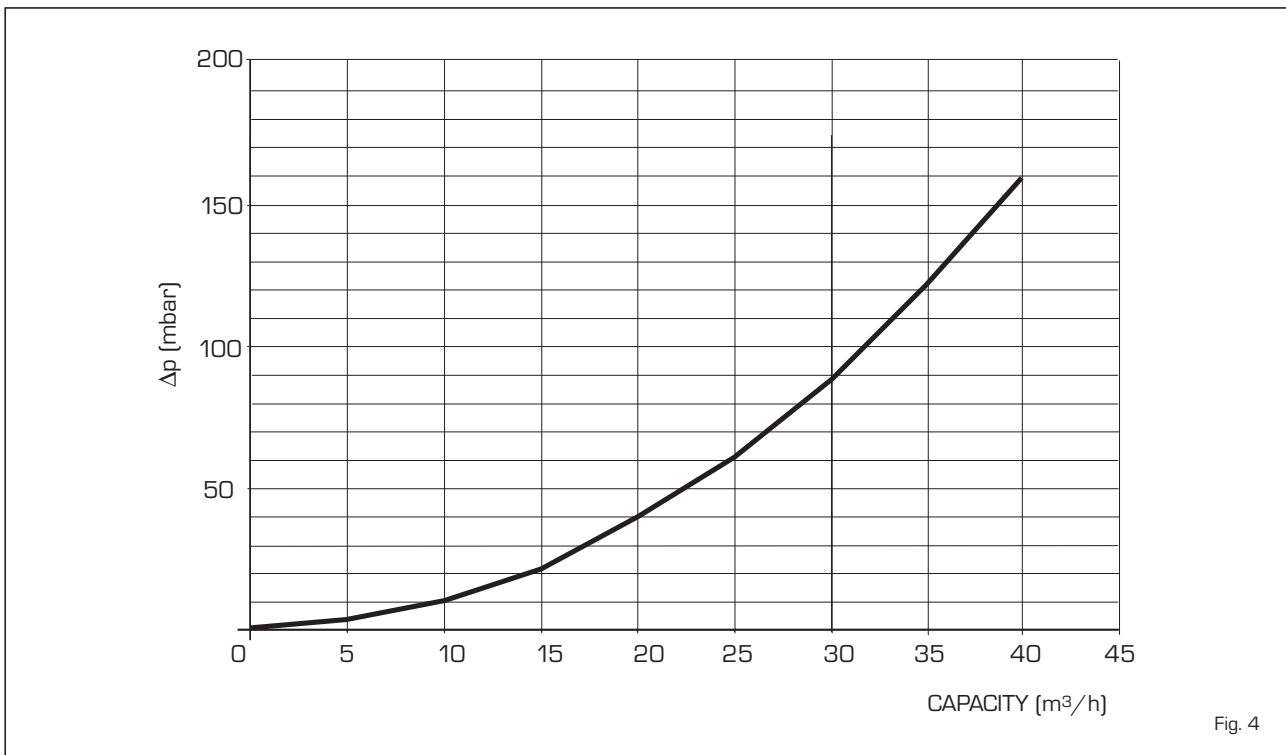

Fig. 4
1.8 PRESSURE DROPS OF THE HYDRAULIC COMPENSATOR SUPPLIED UPON REQUEST WITH KIT CODE 8101553 (fig. 4)